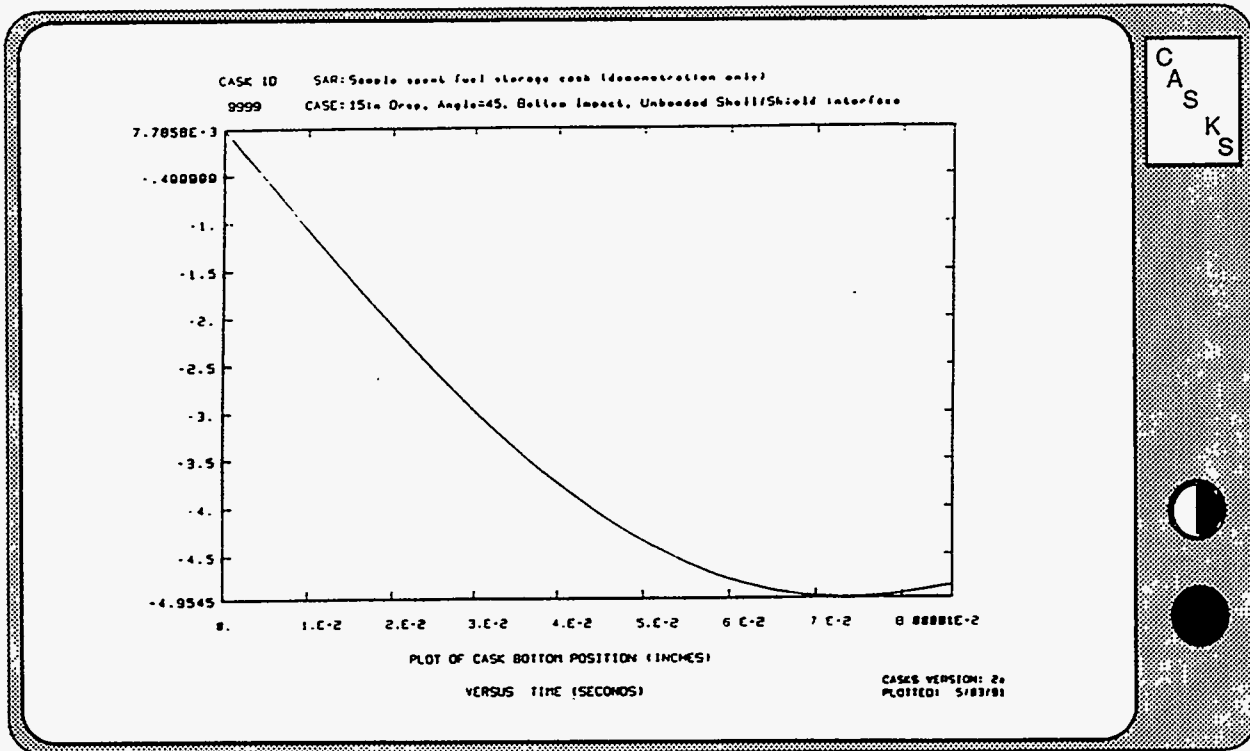

Figure 5-6. Plot of Position of Cask Bottom
- F5** to plot Position of Cask Bottom (Figure 5-6)